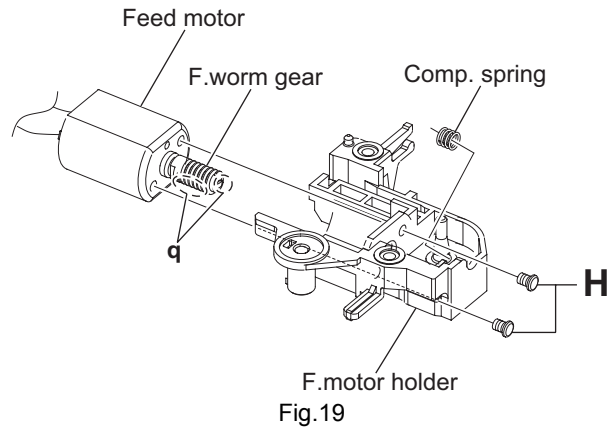

Fig.19
- Remove the two screws **H** attaching the feed motor to f.motor holder. (See Fig.19.)